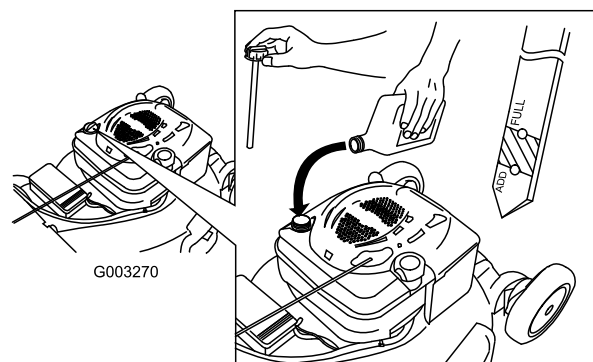

Figure 42
4. **Slowly** pour oil into the oil fill tube until the oil level reaches the Full line on the dipstick (Figure 42). **Do not overfill.** (Max. fill: 20 oz. (0.59 l), type: SAE 30 detergent oil with an API service classification of SF, SG, SH, SJ, SL, or higher.)